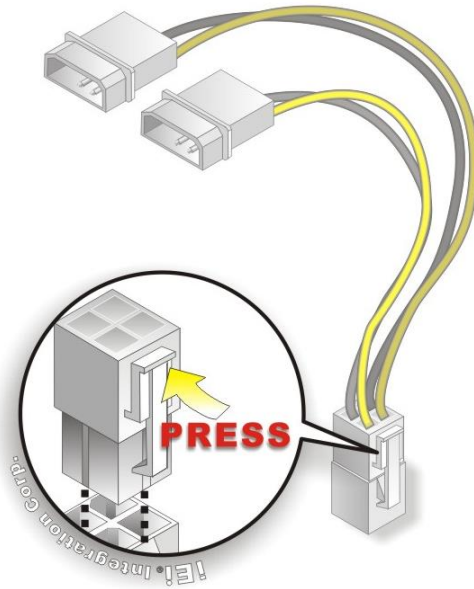

Figure 4-9: Power Cable to Motherboard Connection
Step 2: Connect the power cable to the motherboard. Connect the 4-pin (2x2) Molex type power cable connector to the power connector on the motherboard. See Figure 4-9.